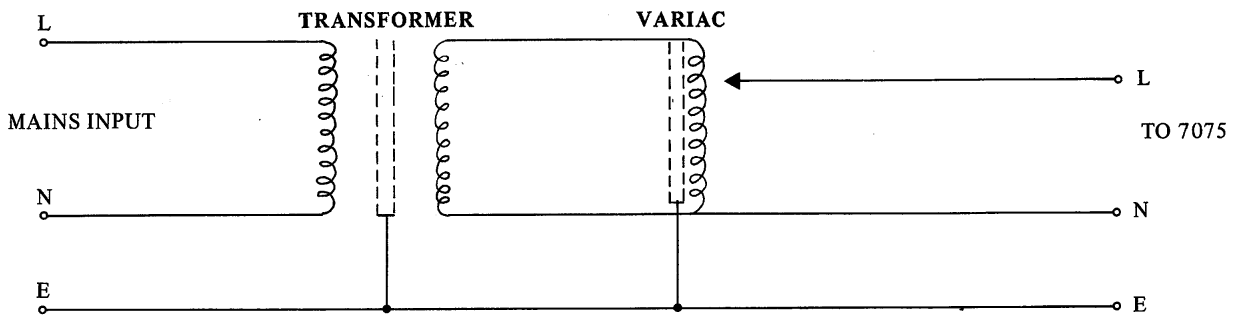

Fig 9.1
1. Connect the 7075 to the mains isolating transformer, as shown in Fig 9.1